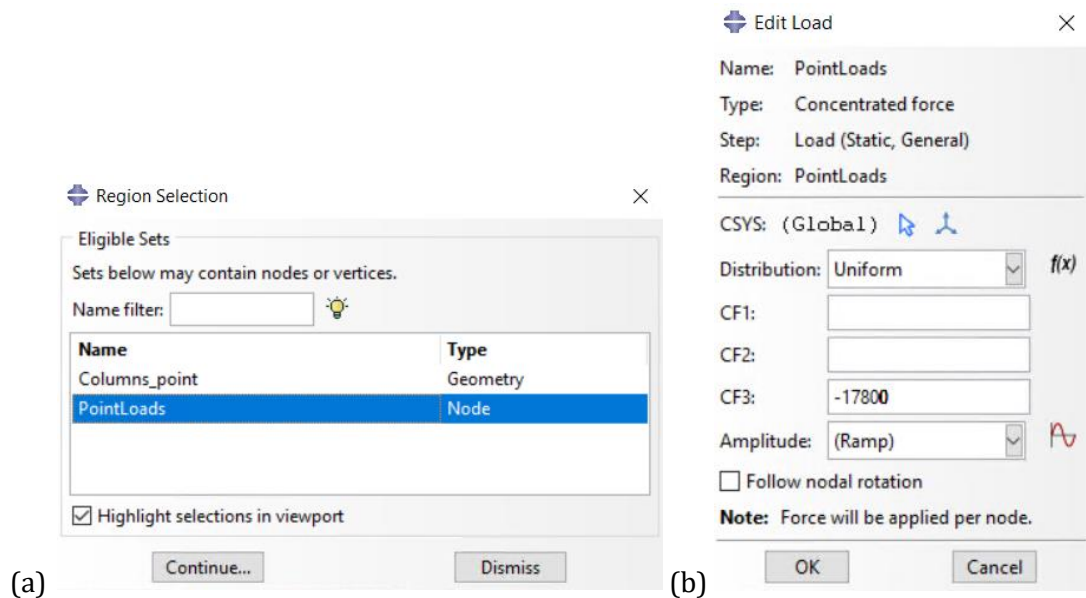

Figure 2-6 – Region Selection (a) and Edit Load (b) dialog box.
8. Choose the predefined set **PointLoads** and click **Continue**. See Figure 2-6(a).
9. In the **Edit Load** dialog box, define the concentrated load CF3. Use a sign as the load acts in the negative z-direction. See Figure 2-6(b).